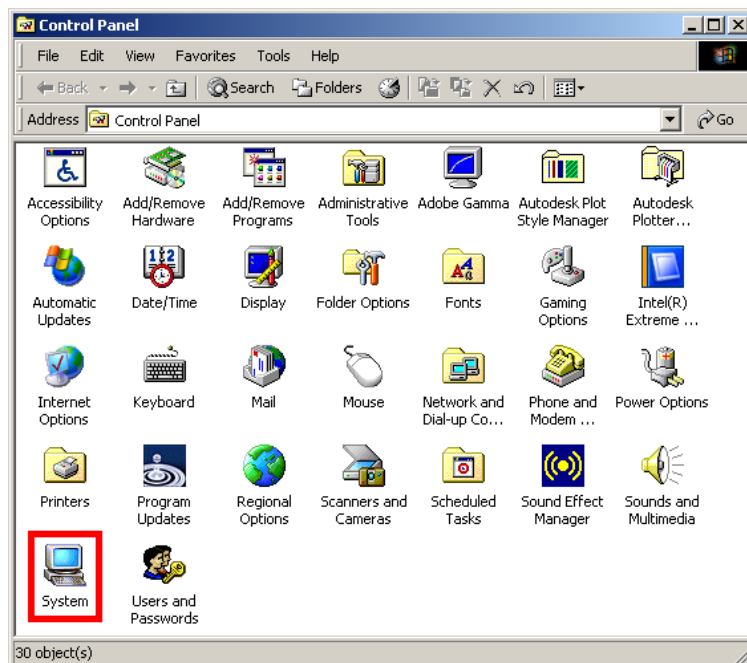

Figure 7-27: System Icon
Step 2: Double-click the **System** icon (Figure 7-27).